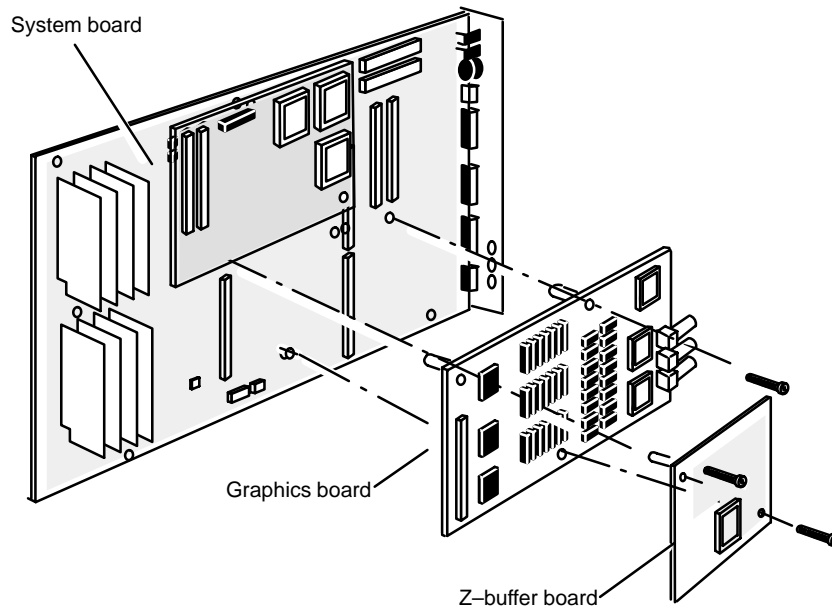

Figure 9-25 Replacing the Board-Retaining Screws
4. Replace the board-retaining screws after you have installed all the option boards as shown in Figure 9-25.